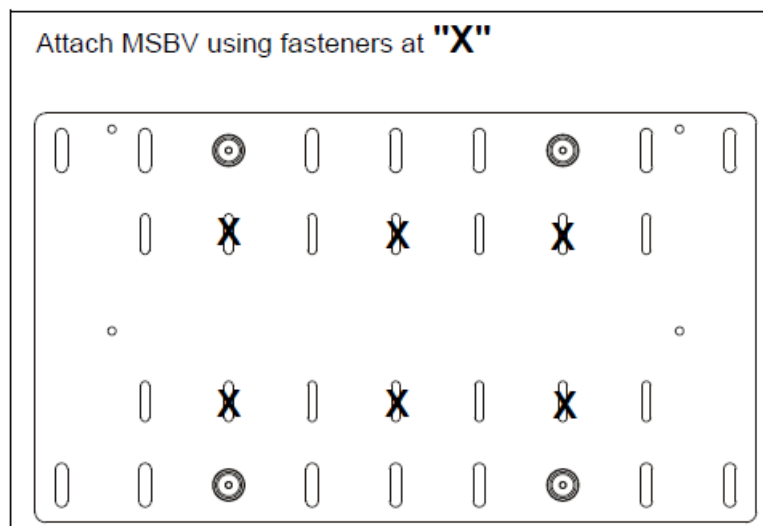

Figure 3
2. Attach the MSBV bracket (A) using the hole pattern on back of display and holes noted at "X". (See Figure 3)